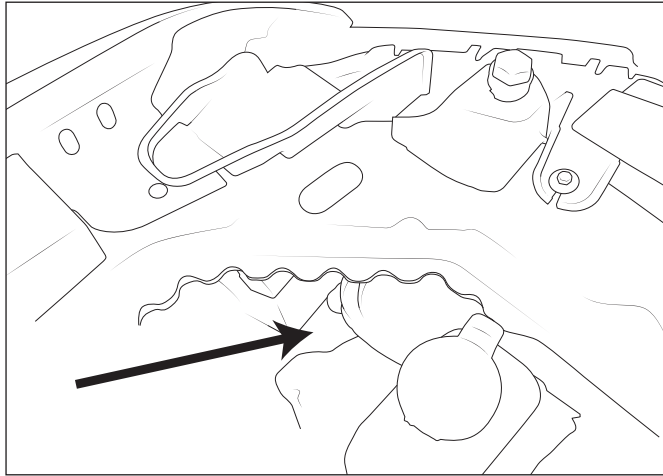

Figure 15
9. Rout the other end of the harness through the bottom of the engine bay (fig. 15)